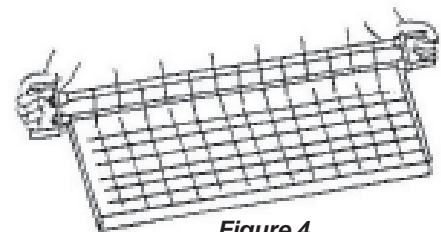

Figure 4
- 5) Make the cross cut by repeating the above steps with the other set of cutters (see Figure 4).